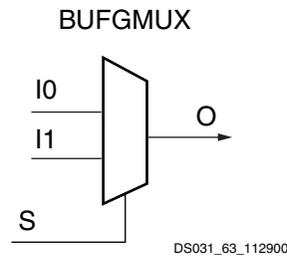

Figure 41: Virtex-II BUFGMUX Function
The two clock inputs can be connected to any synchronous or asynchronous clock (from a clock pad or DCM clock output). When the select input (S) is Low, the clock connected to the I₀ input is distributed, as shown in Figure 41. Setting S High, causes the clock connected to the I₁ input to be distributed.